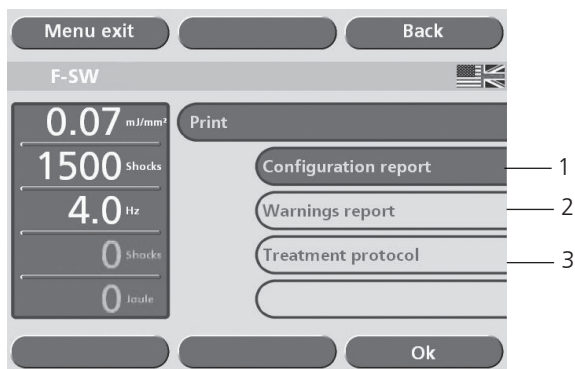

Fig.3-21 Printing data
- Select the “Print” / “Treatment protocol” function in the 1st sub-menu (Fig.3-21/3).
- Select the “Print” / “Warnings report” function to print the list of errors that have occurred (Fig.3-21/2).